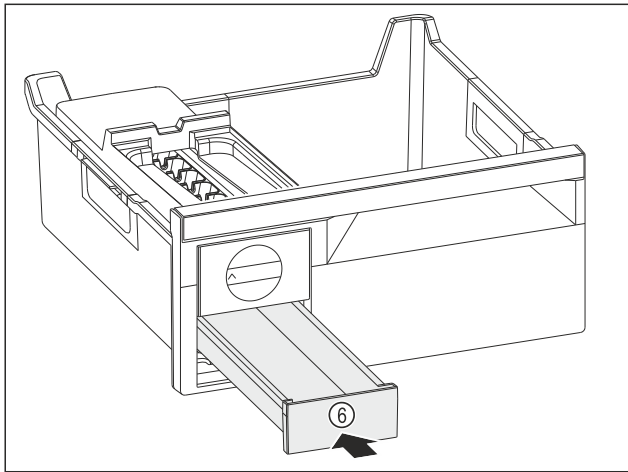

Fig. 136
- ▶ Insert the ice cube drawer Fig. 136 (6).